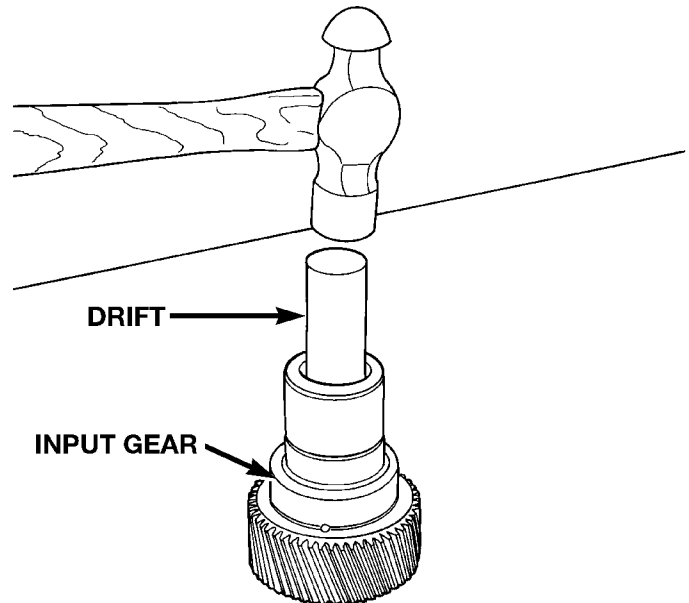

Fig. 54 Remove Input Gear Pilot Bearing
(9) Remove the input gear pilot bearing by inserting a suitably sized drift into the splined end of the input gear and driving the bearing out with the drift and a hammer (Fig. 54).